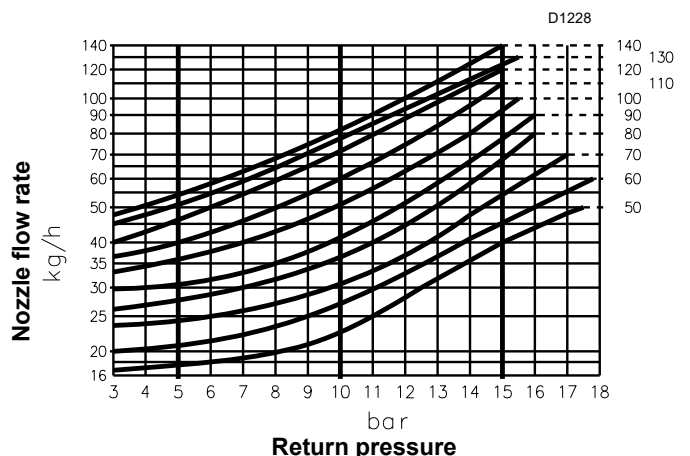

Fig. 28
Diagram (Fig. 28) indicates this relationship for type A3 and A4 Bergonzo nozzles with pump delivery pressure of 20 bars.
- **When the setting is carried out, verify manually that no slow-down occurs between (page 26) 0° and 130° and that the maximum and minimum pressures correspond to those chosen as per diagram (Fig. 28 on page 24).**
The nozzle flow rate is given in diagram (Fig. 28 on page 24) corresponding to the pressure on the nozzle return read on the pressure gauge 1)(Fig. 29 on page 25).